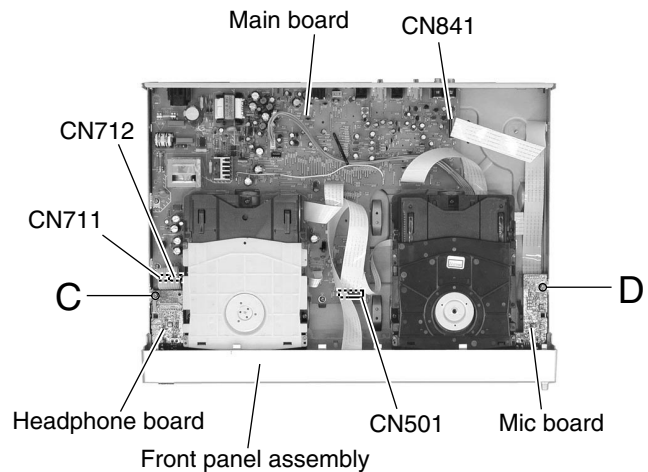

Fig.10
■ Removing the front panel assembly (See Fig.10 to 14)